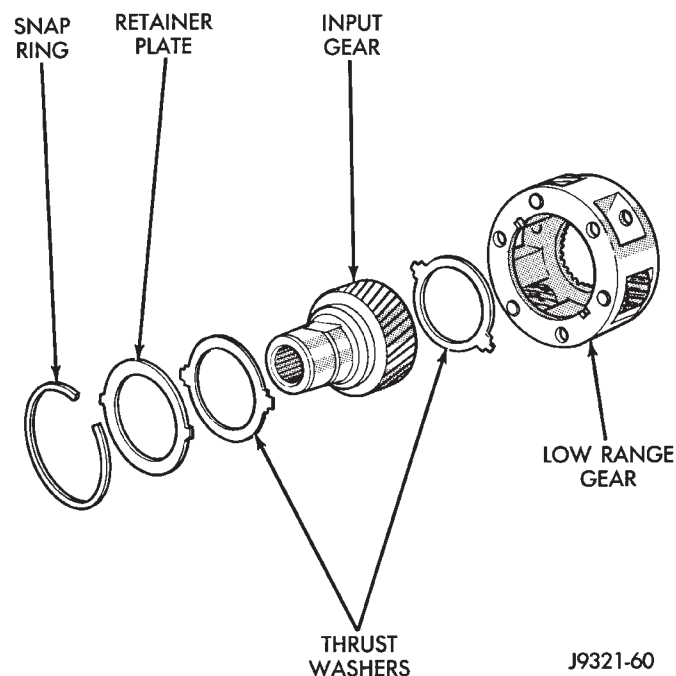

Fig. 63 Input/Low Range Gear Components
(1) Lubricate gears and thrust washers (Fig. 63) with recommended transmission fluid.
(2) Install first thrust washer in low range gear (Fig. 63). Be sure washer tabs are properly aligned in gear notches.